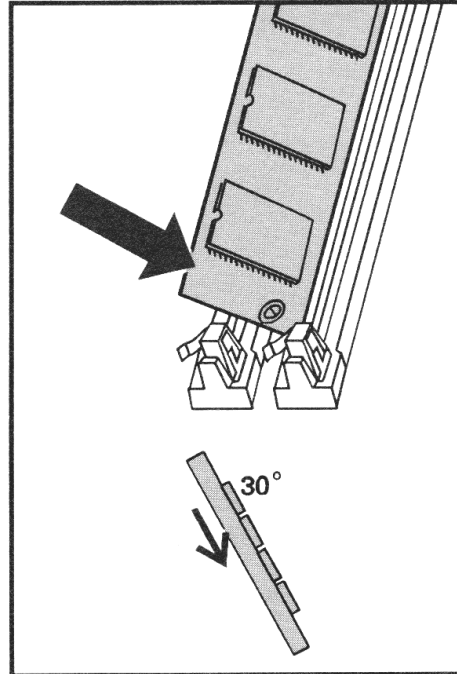

Figure B-1.9. Seating the SIMM board in the socket.
2. Hold the SIMM board at a 30-degree angle to the slot and push the edge of the board evenly and firmly into the slot, as shown in Figure B-1.9.